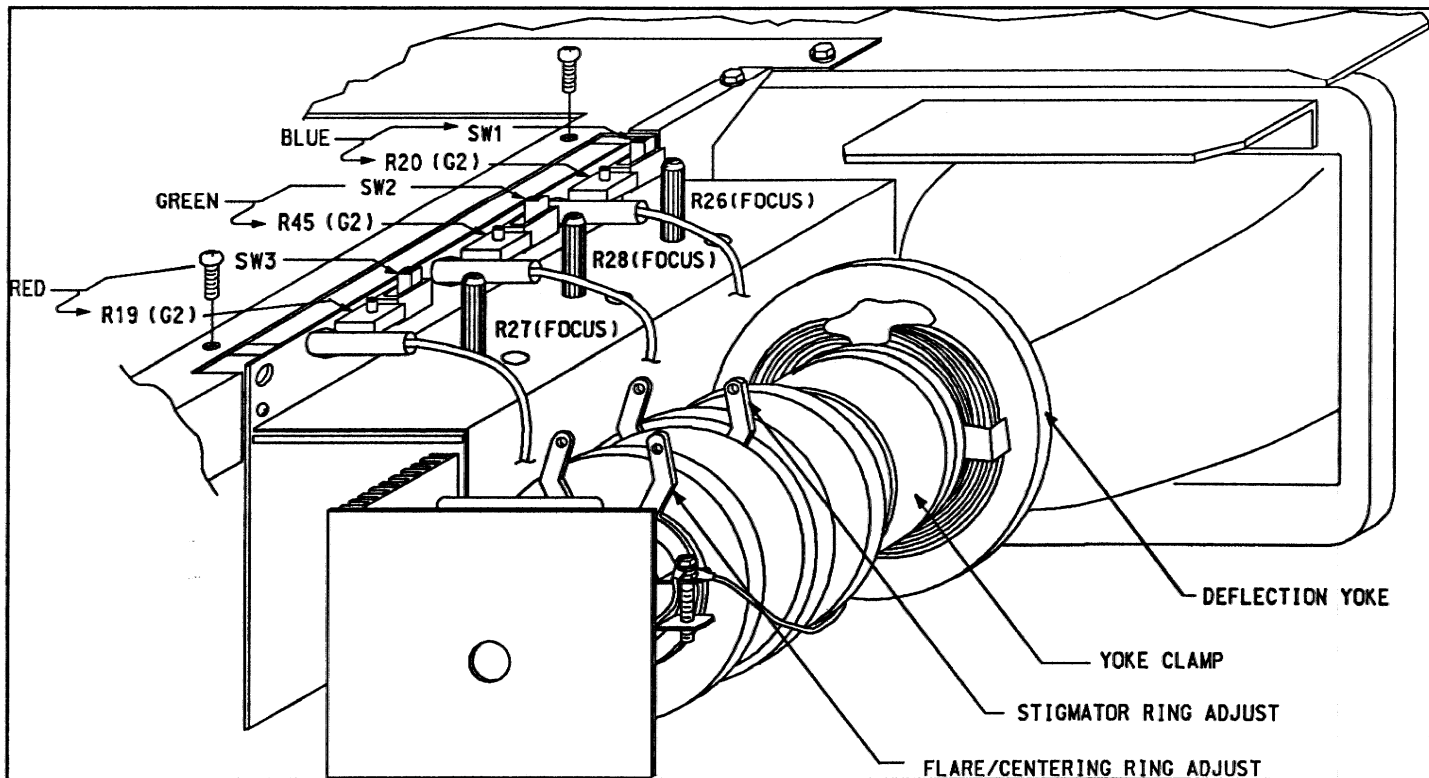

FIGURE 7-5. Bias Module and CRT Controls
- Adjust the three G2 trim potentiometers (R20, R45, R19) on the Bias module until the raster of each color is visible (see Figure 7-5).
b) For the newly installed or reassembled CRT, turn on the corresponding CRT switch on the Bias module. Refer to Figure 7-5. With the internal cross hatch selected from the keypad, look into the CRT lens and adjust the G2 and focus controls on the Bias module. Set the controls to roughly match that seen when looking into the other two CRT's (while turned on). Note: If the CRT is exhibiting an extremely bright image (high beam current), reduce with the G2 control.
c) Turn off the newly installed CRT and turn on one of the original CRTs, preferably the green or red. Use the appropriate switch on the Bias module. See Figure 7-5.
- View the screen center. Rotate the stigmator rings until the spot becomes round. Refer to Figure 7-5.
- Rotate the flare rings until the bright spot is in the center of the halo. Refer to Figure 7-5.